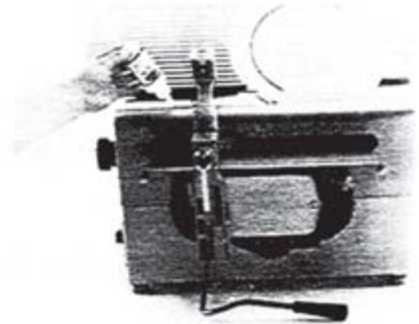

Figure 23-1
- a. To do so, pull food chute handle completely forward (toward operator). (Fig. 23-1) Remove the food chute to improve the access to the oil hole.